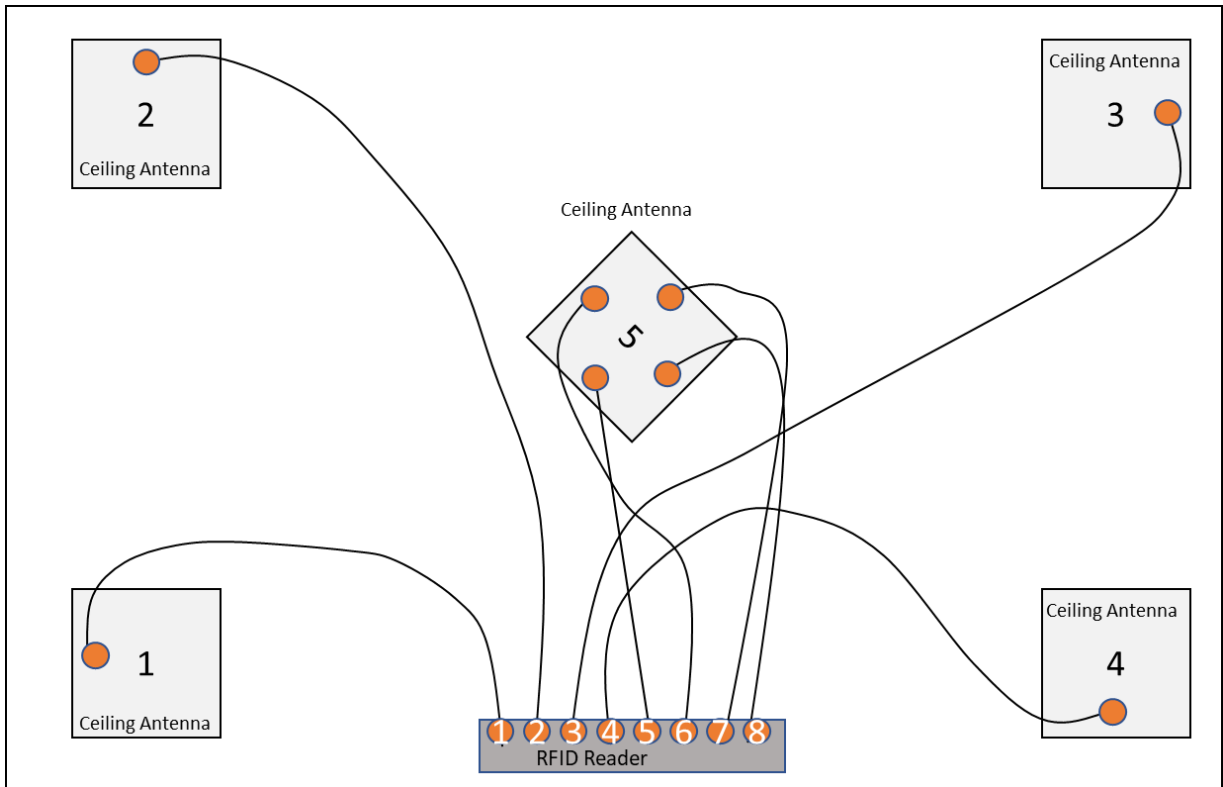

Figure 4: Example antenna placements over an interrogation area
1) Select the antenna locations. The recommended antenna arrangement is shown in figure 4 (for Space Ranger applications, other potential antenna configurations are detailed in the Installation Guide). The antennas should also be positioned: